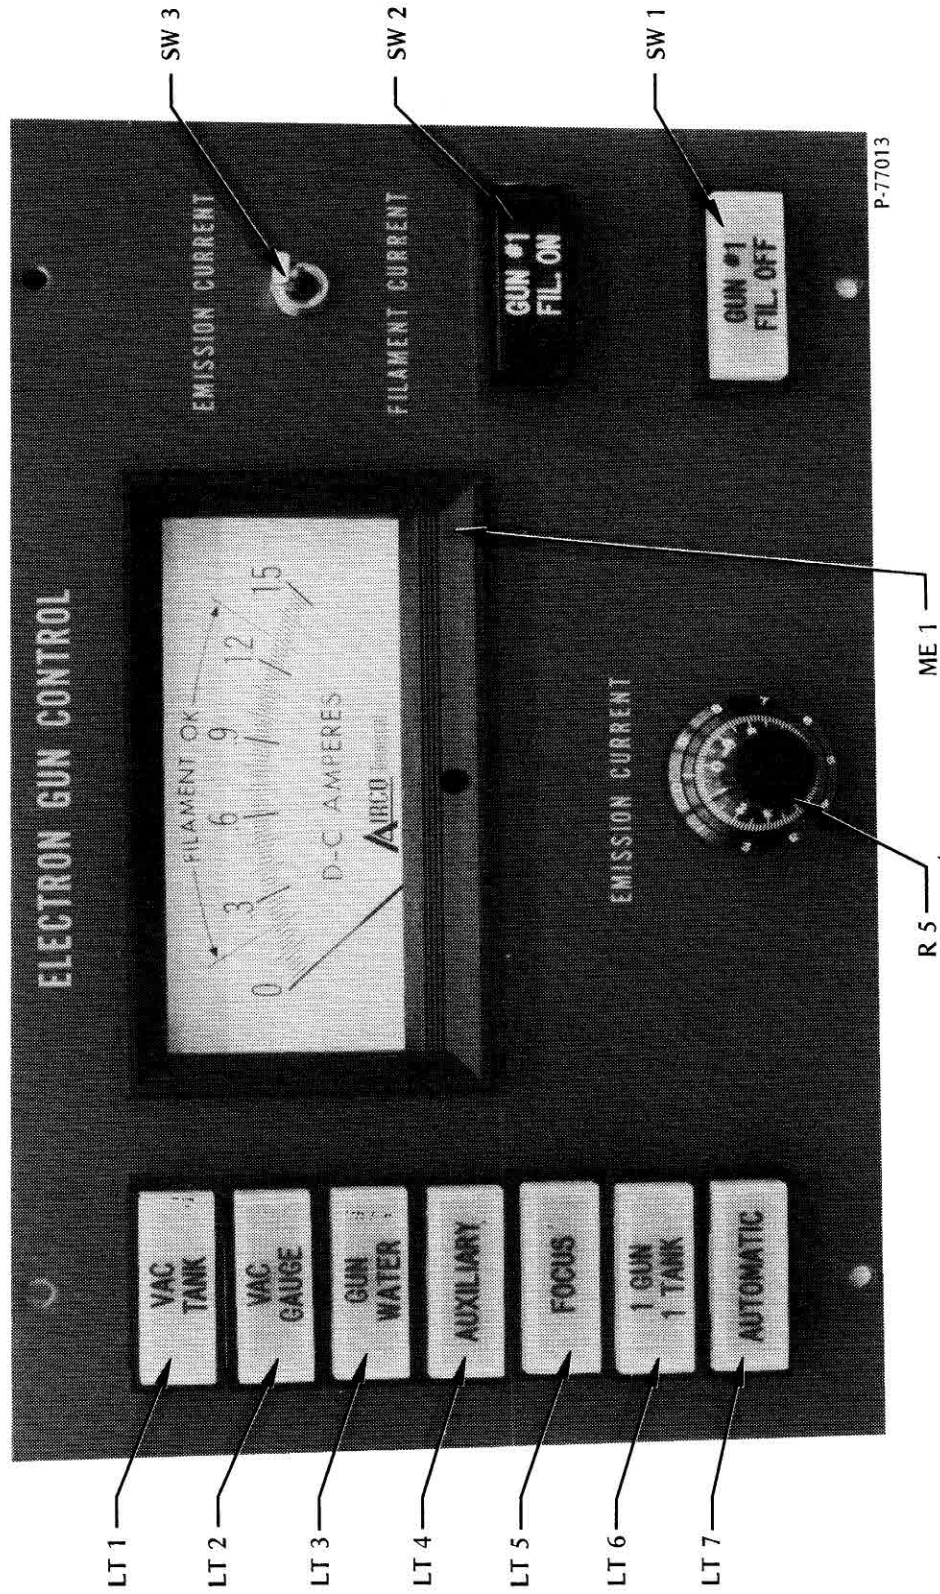

Figure 3-3. CV-14 A and B electron beam gun control panel
- b) Electron Gun Control (figure 3-3):